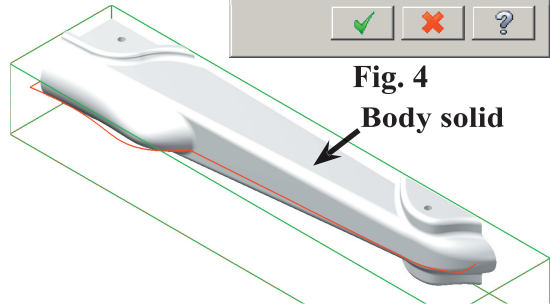

Fig. 5
Step 3. Click the **body solid** to select as Drive surfaces/solid, **Fig. 5**. The solid will highlight when selected.